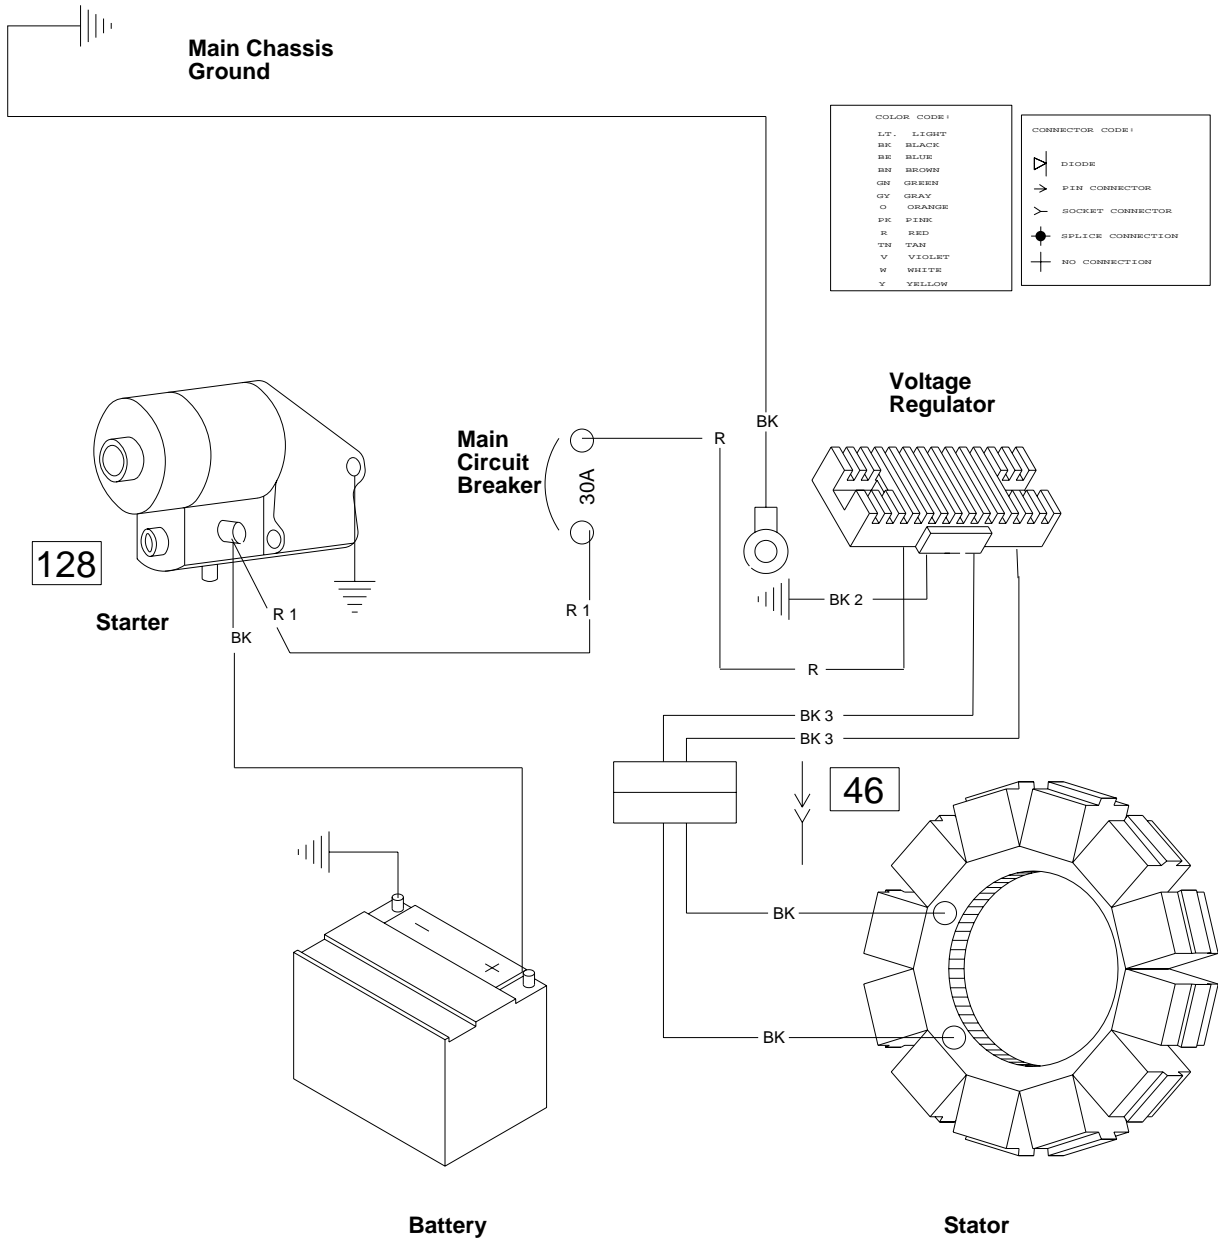

Figure 7-45. Charging System Circuit
The charging system consists of the alternator and regulator. Charging system circuits are shown in Figure 7-45.
Check for corroded or loose connections in the charging circuit. See Figure 7-45.
2. See Figure 7-45. Connect an ohmmeter.